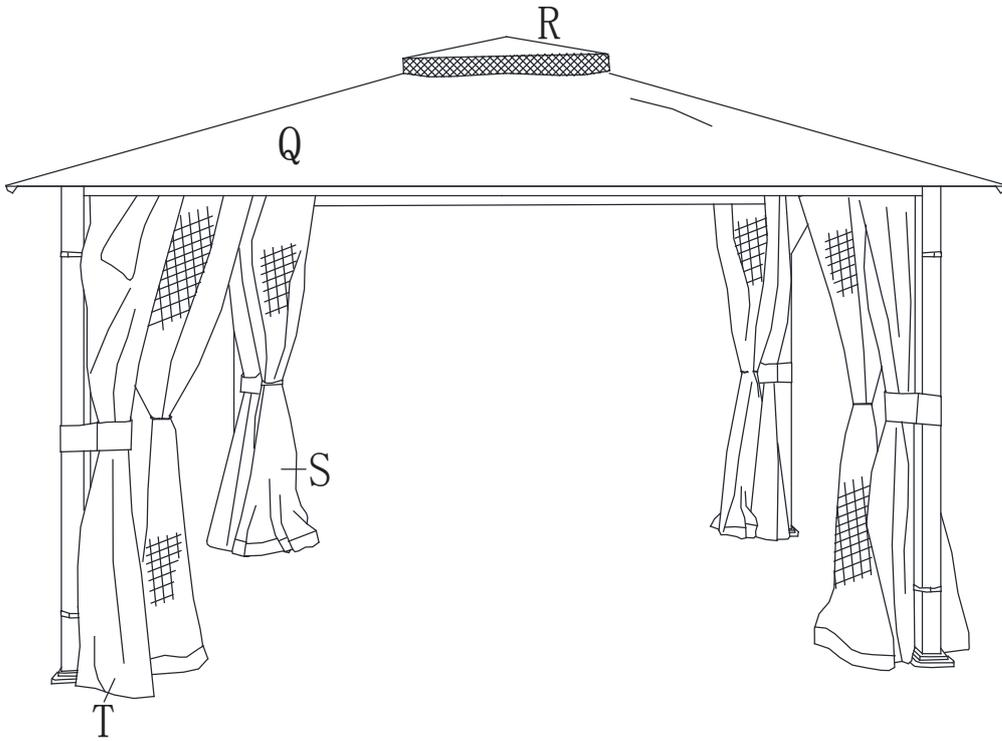

Fig 18
11. Hang the curtain (T) on the hooks of rails outside. Fig 18